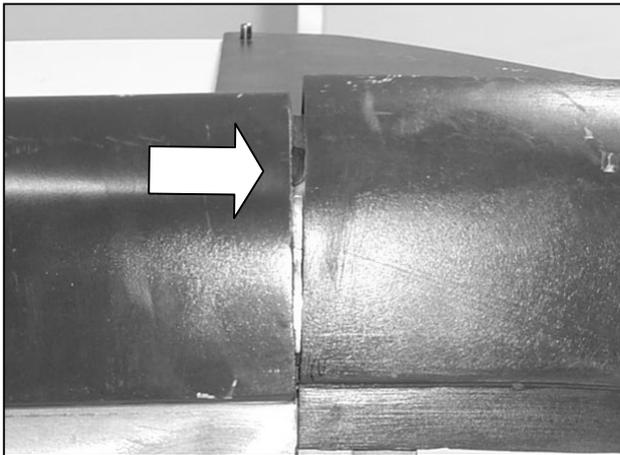

Figure 2: Mock-up showing cap and roof edges not flush and true
***NOTE:** When the cap and the roof are not entirely flush in relation to each other (see Figure 2), do not use body filler on the new seam. Proceed as follows:*